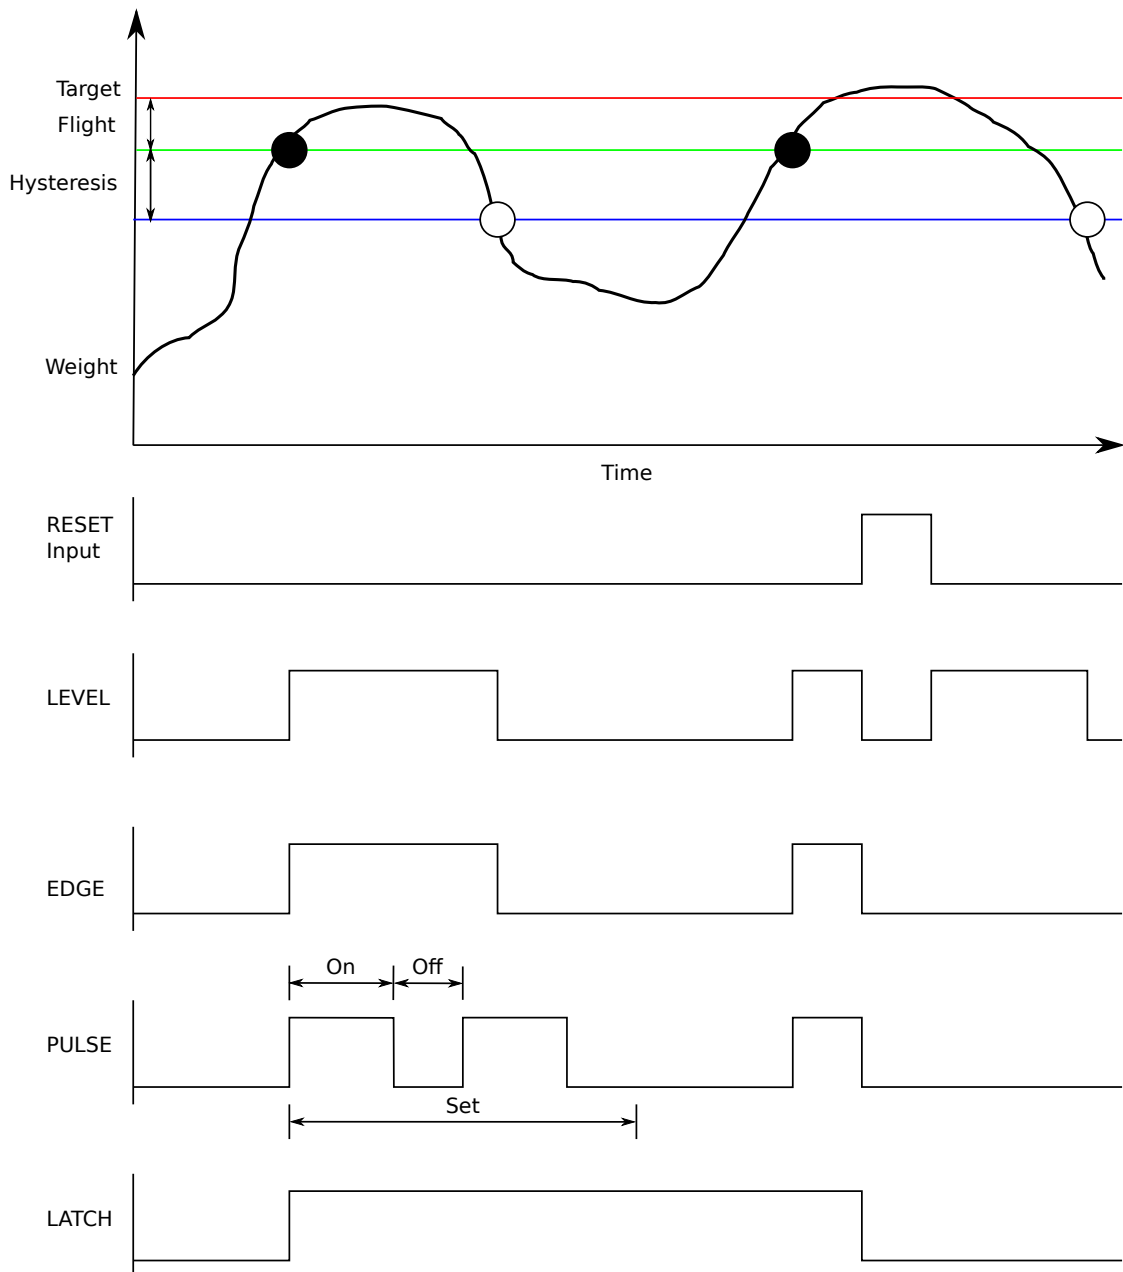

Figure 1: Comparison of output timing on Over setpoint
- **TIMING:** Select the output timing of the setpoint. The following examples are explained in the context of an OVER setpoint however the timing options are available for all setpoint types. See figure 1 on page 66 for further clarification. Options are: